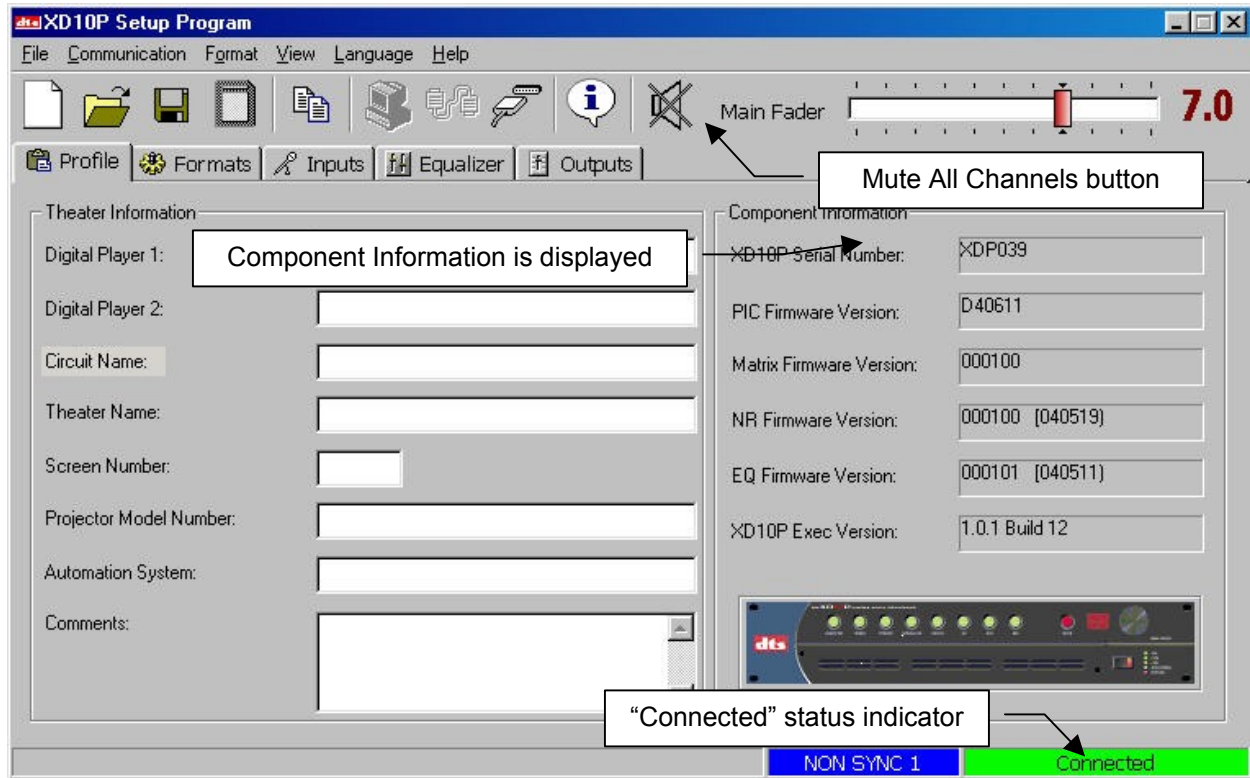

Figure 4-11. Initial screen (Profile tab) after connecting to XD10P.
- Note:** When the computer is connected to the XD10P (see Figure 4-11) the Setup software takes total control, and the buttons and fader knob on the front panel of the unit will not respond to user interaction.
After the computer establishes connection to the XD10P, the connection status bar in the lower right hand corner of the main screen will change from “Disconnected” to “Connected” (Figure 4-11).
The **Component Information** fields are read from the XD10P and cannot be changed by the user. At the bottom right of the screen is the connection status bar and the format status bar (look back at Figure 4-11). These will display in all tab views. The format status bar will always indicate the format that the processor is currently operating.